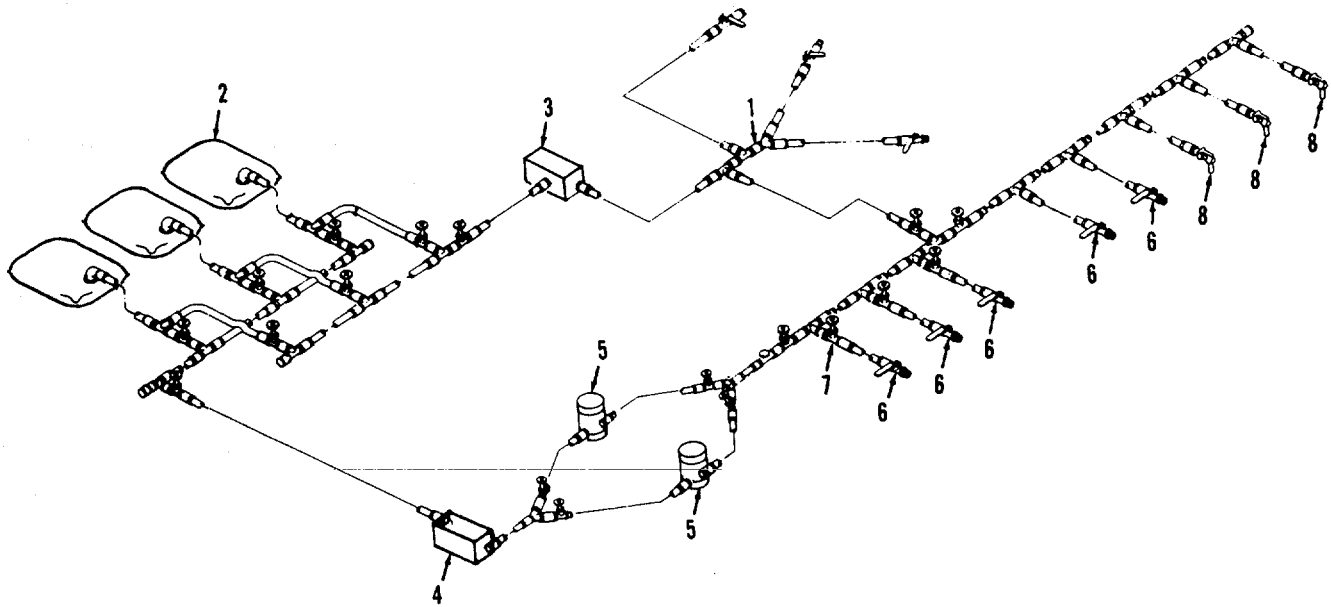

Figure 1-3. Operation of Fuel System Supply Point.
1-11. THEORY OF OPERATIONS. The FSSP comprises a number of separate major components to store and dispense fuel. The principles of operation of each of these major components and how they work within the system are defined in the following paragraphs. (Refer to Figure 1-3.)
a. Fuel System. The FSSP is used to store and dispense fuel to using units in the field. A typical layout of the FSSP is shown in Figure 1-3. Fuel enters FSSP through the wye and tee assembly (1), and it is moved into the three collapsible fabric fuel tanks (2) by the first of two 350 gpm centrifugal pumps (3) or it may be moved by the fuel transporter or pipeline pumps. A second 350 gpm pump (4) moves the fuel from the collapsible tanks (2) through the filter/separators (5) to the quick acting valves (6), gate valves (7), and the nozzles (8).
b. Pumps. The 350 gpm centrifugal pump (3) is used on the receiving side of the FSSP to move fuel into the collapsible tanks (2). An identical pump (4) is used on the delivery side of the FSSP to move the fuel from the tanks to the various types of dispensing units.
c. Filter/Separator. Two 350 gpm filter/separators (5) may be connected in parallel on the delivery side of the system to remove entrained water and solid contaminants from fuel before it is dispensed into vehicles or containers.
d. Tanks. Three collapsible fuel tanks (2) (any combination of 3,000, 10,000, or 20,000 gallon tanks may be used) are used to store fuel received from fuel transporters or pipelines to be supplied to the dispensing units.